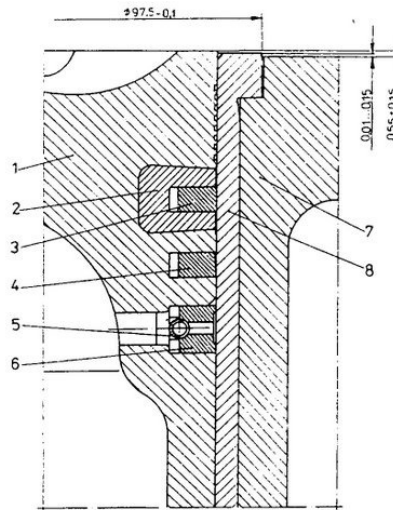

Fig. 19. Cylinder liner and piston position over a cylinder block upper surface
- Measure a height of cylinder liner protrusion over a cylinder block surface; it should be 0.01 ... 0.015 mm (Fig. 19). A cylinder head gasket rests on the protruding part of cylinder liner.